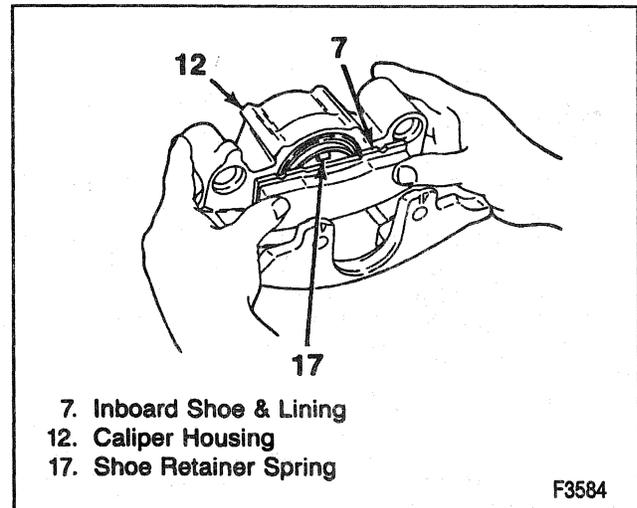
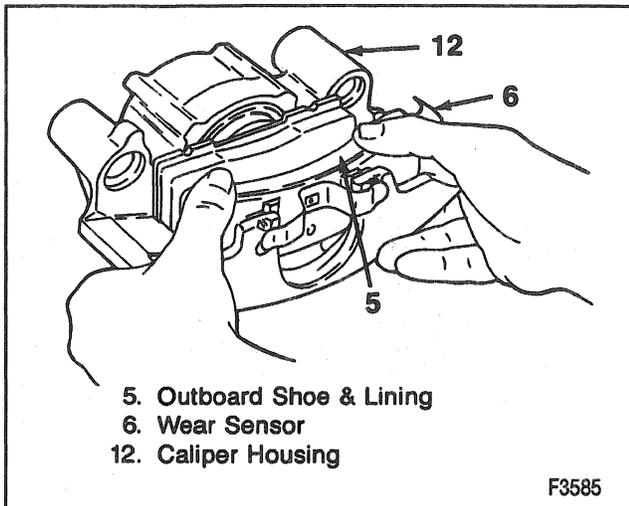

Figure 10—Installing the Inboard Lining
Figure 11—Installing the Outboard Lining
↔ Install or Connect (Figures 10 through 12)
1. Lubricate bushings (3) and mounting bolt seals (4) with Delco Silicone Lube GM P/N 18010909 or equivalent.
2. New bushings (3) and bolt seals (4) (if used).
3. New bolt boots (1).
4. Inboard lining (7).
- Snap retainer spring (17) into piston (9) (Figure 10).
- The pad retainer spring (17) is already staked to inboard shoe.
5. Outboard lining (5) with wear indicator (6) at leading edge of pad during forward wheel rotation (Figure 11).
6. Caliper (12). Refer to "Caliper" in this section.